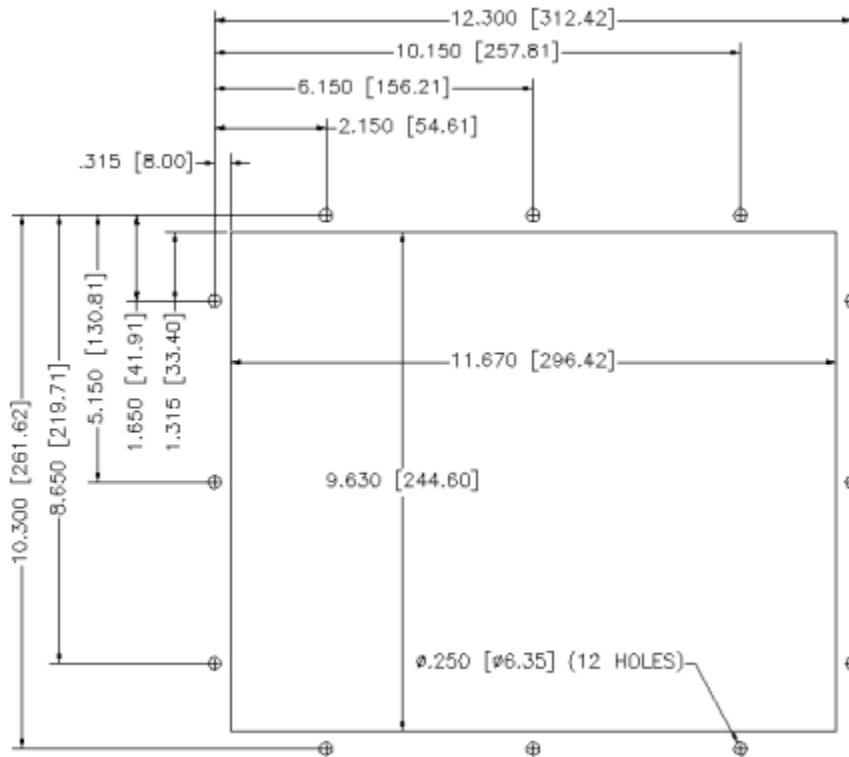
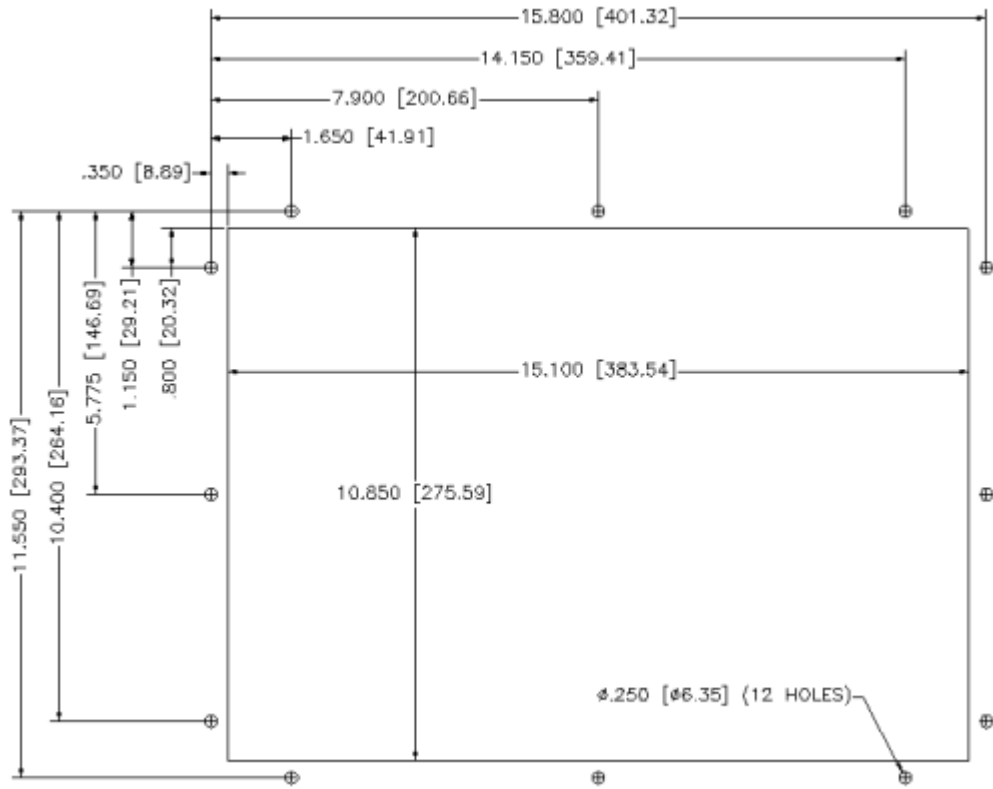
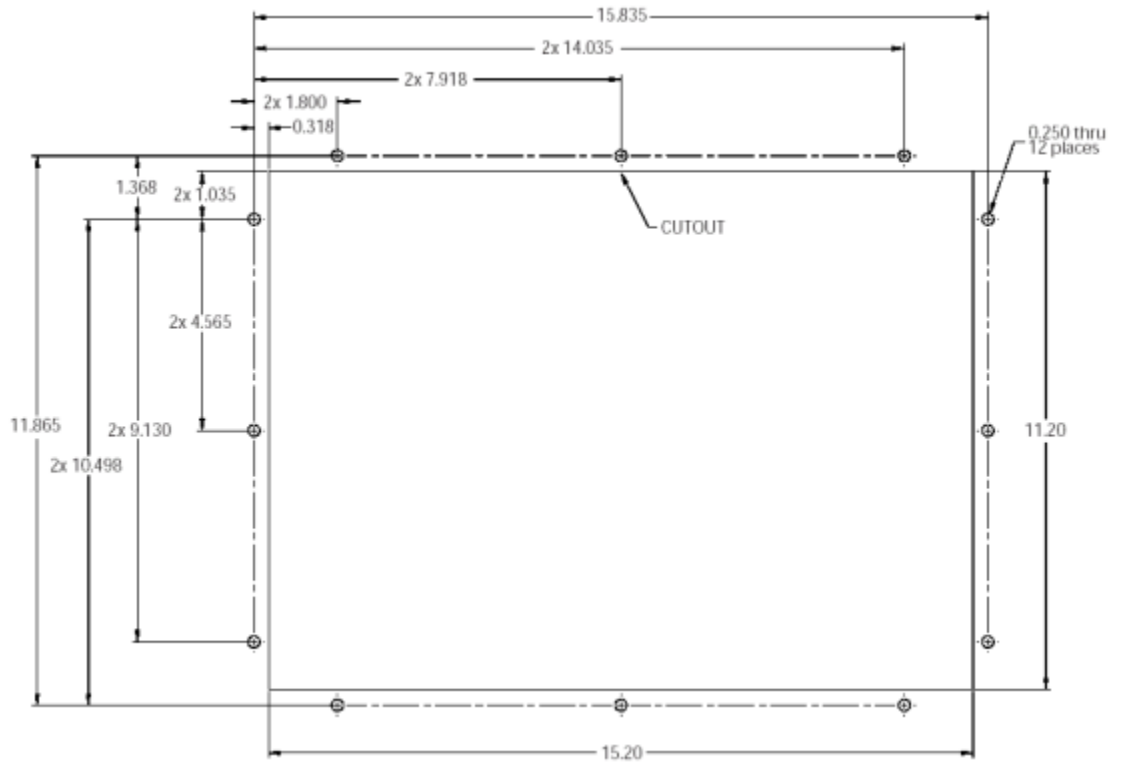
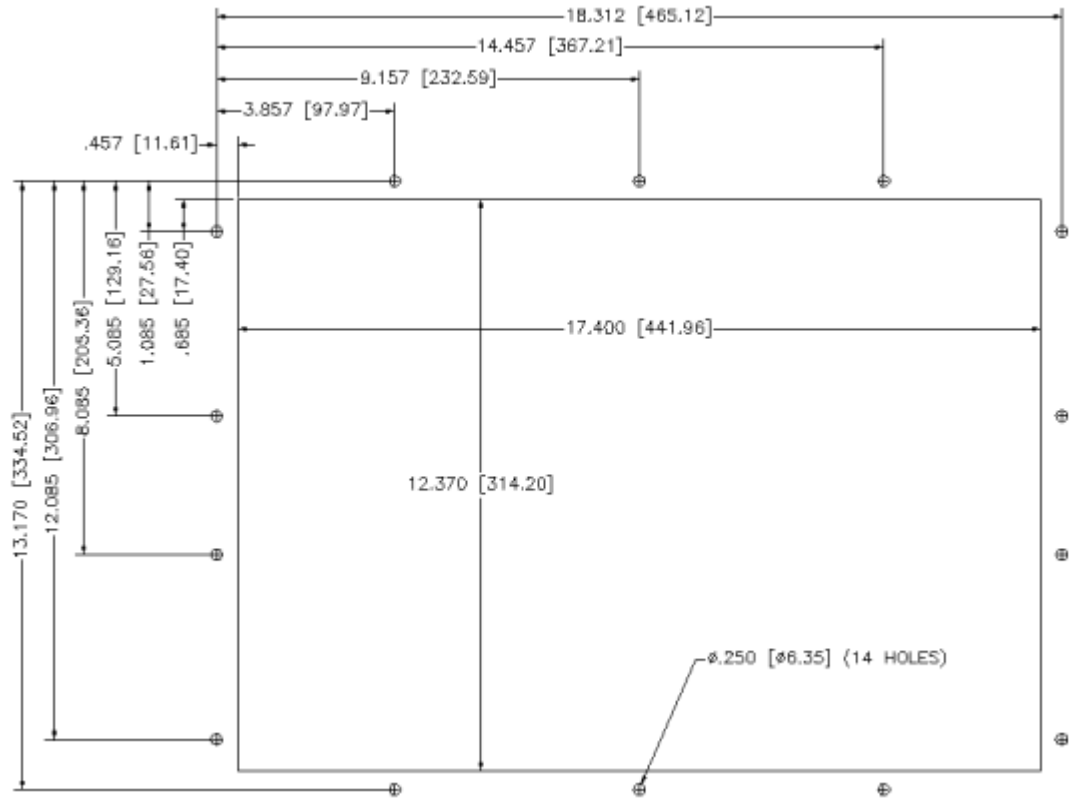

Figure 2-1. 3612T System Cutout Dimensions (inches [mm])
Figure 2-2. 3612KPM(T) System Cutout Dimensions (inches [mm])
Figure 2-3. 3615T System Cutout Dimensions (inches [mm])
Figure 2-4. 3615KPM(T) System Cutout Dimensions (inches [mm])
2. Create a cutout in the enclosure (see Figure 2-1, Figure 2-2, Figure 2-3, and Figure 2-4 in *System Cutout Dimensions*).